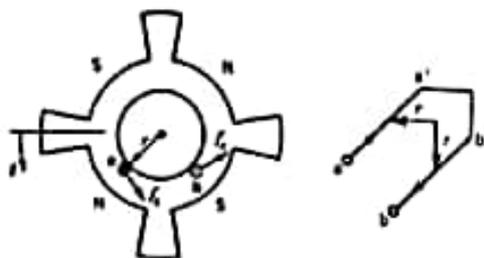

Fig. 2
4.1 Consider the turn aa'b'b shown in Fig. 2, whose two conductors aa' and bb' are placed under two adjacent poles. The force on a conductor (placed on the periphery of the armature) is